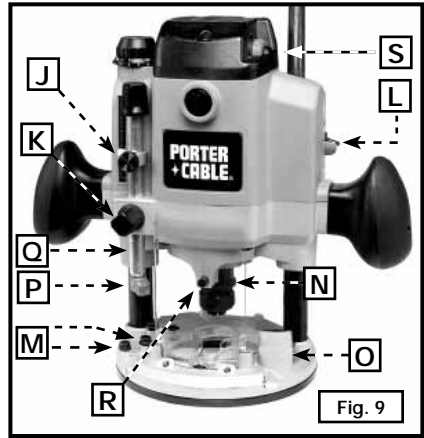

Fig. 9
1. Remove the chip deflector (N) Fig. 9.
5. Press on the spindle lock (R) Fig. 9 while turning the chuck (D) Fig. 9 until it locks into place.
4. Position the depth indicator (J) Fig. 9 at the "O" position and tighten the knob.
5. Loosen the depth rod-locking knob (K) Fig. 9, and raise the depth rod until the indicator aligns with the graduation representing the desired depth of plunge (The example in Fig. 13 shows the setting for 1" plunge). Tighten the depth rod-locking knob.
3. Raise the depth rod (Q) Fig. 9 to its highest position.
4. Ensure that the "ON-OFF" switch (I) Fig. 9 is in the off position.
The speed is adjusted by turning the control knob (S) Fig. 9. The speed control knob is labeled 1 through 4. The slowest speed (1) is 10,000 RPM, and the highest speed (4) is 23,000 RPM. Setting 2 is approximately 14,000 RPM and setting 3 is approximately 18,000 RPM.